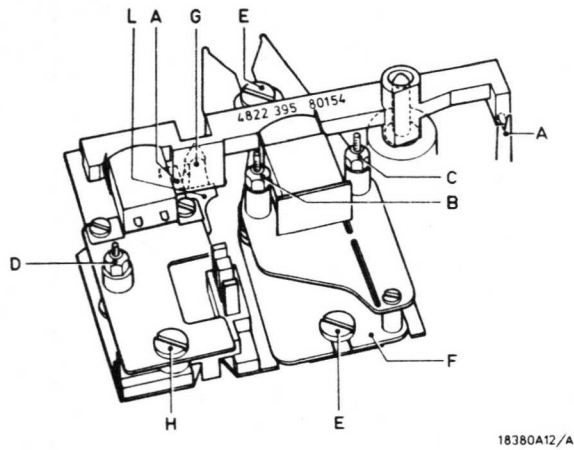

Fig. 5
a1. Height recording/playback head (Fig. 5)
a2. Azimuth recording/playback head (Fig. 5)
a3. Penetration depth of recording/playback head (Fig. 5)
b1. Erase head height (Fig. 5)
b2. Penetration depth of the erase head (Fig. 5)
a. Head slide solenoid RE476 (Fig. 5)